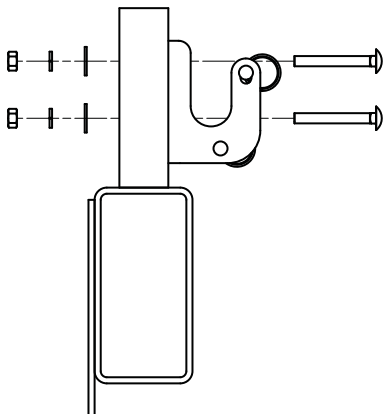

Figure 54
1) Figure 54. OPTIONAL Attach tarp and anchor pipe to top rail with clamps #14 screws.
3) Figures 54 & 55. For sideboards. Drill a pilot hole and attach with 3/8 x 2-1/2 carriage bolts.